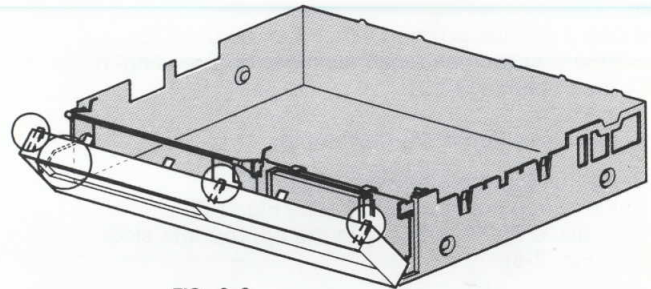

FIG. 2-2
- The control panel is locked to the lower cabinet with three snap constructions (see Fig. 2-2). If these snap constructions are unlocked, the entire control panel can be tilted forwards. To remove the entire control panel first the tilt protection left and the flexible connection with the display PCB should be removed. The cassette lid should be pushed somewhat inwards during removal of the control panel.